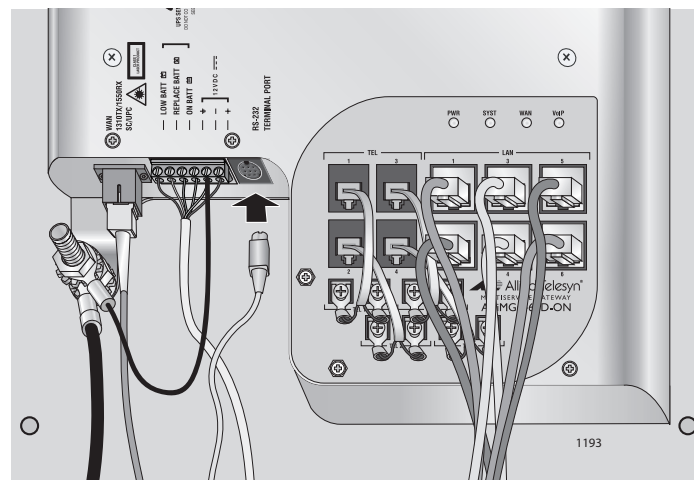

Figure 56. Connecting the Management Cable
4. If necessary, plug the management cable into the console port, as shown in Figure 56.